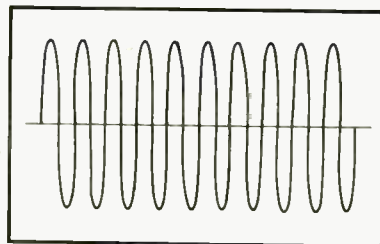

Fig. 2. Unmodulated carrier wave.
A. The sine waves shown in Fig. 2 represent a transmitter sending out a signal with no program material impressed on it. The process of impressing such information on the transmitted wave (carrier) is modulation, be it amplitude, frequency, phase, pulse, or what have you. In amplitude modulation (AM), the vertical distance between crests and troughs changes, and at a rate dependent upon the frequency of the program source at the time. If the change in the size (amplitude) of the wave is small, the volume output will be low. If there is a large change in amplitude, high volumes will be heard by the listener. Remember that when two signals combine in non-linear fashion they beat or heterodyne. After this beating process, we have the original frequencies and also the sum of the two and their difference. (Let us assume our carrier frequency to be 1000 kilocycles per second; let us impress upon that carrier a 1000-cps tone. This tone will beat with our carrier, forming at least